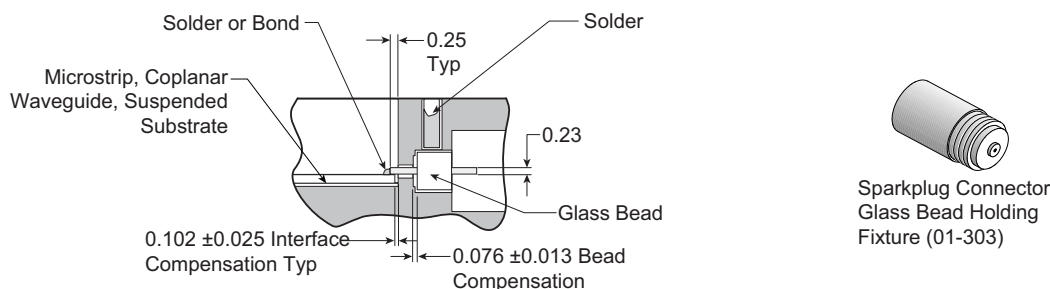

Figure 4-2. V102M-R Glass Bead Assembly
1. Install the microstrip into the housing (see Figure 4-2 for dimensional tolerances around the glass bead).